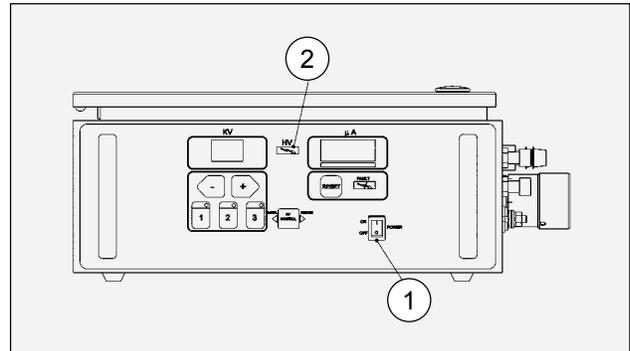

Figure 12: 9060 Power “ON-OFF” Switch
4. Turn the 9060 power “ON-OFF” switch on the front panel to the “ON” position as shown in Figure 12. The unit will power up, but high voltage will not be on at this point. because the voltage is interlocked to the electric motor through the “ON-OFF” switch on the applicator.
9060 POWER “ON - OFF” SWITCH (Figure 12)